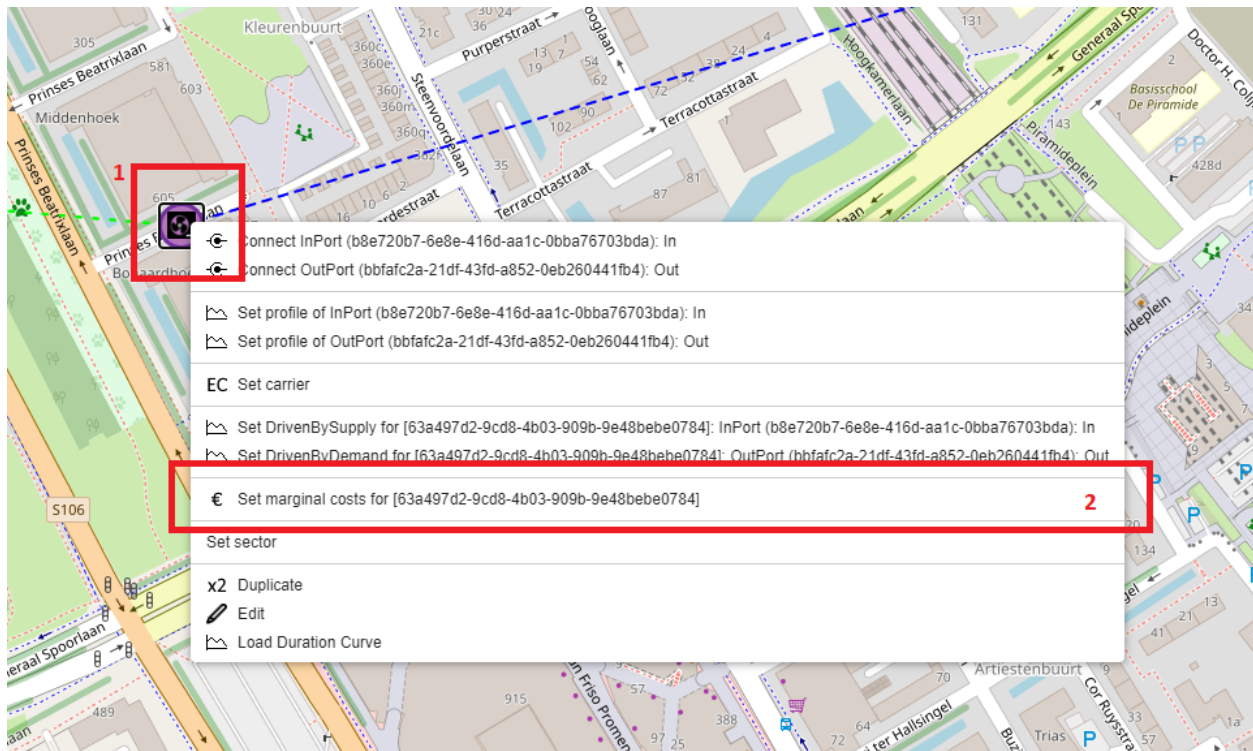

Figure 30: Setting marginal costs of the *HeatPump*
- Right-click on its icon (1) and select ***Set marginal costs*** (2) (see Figure 30).